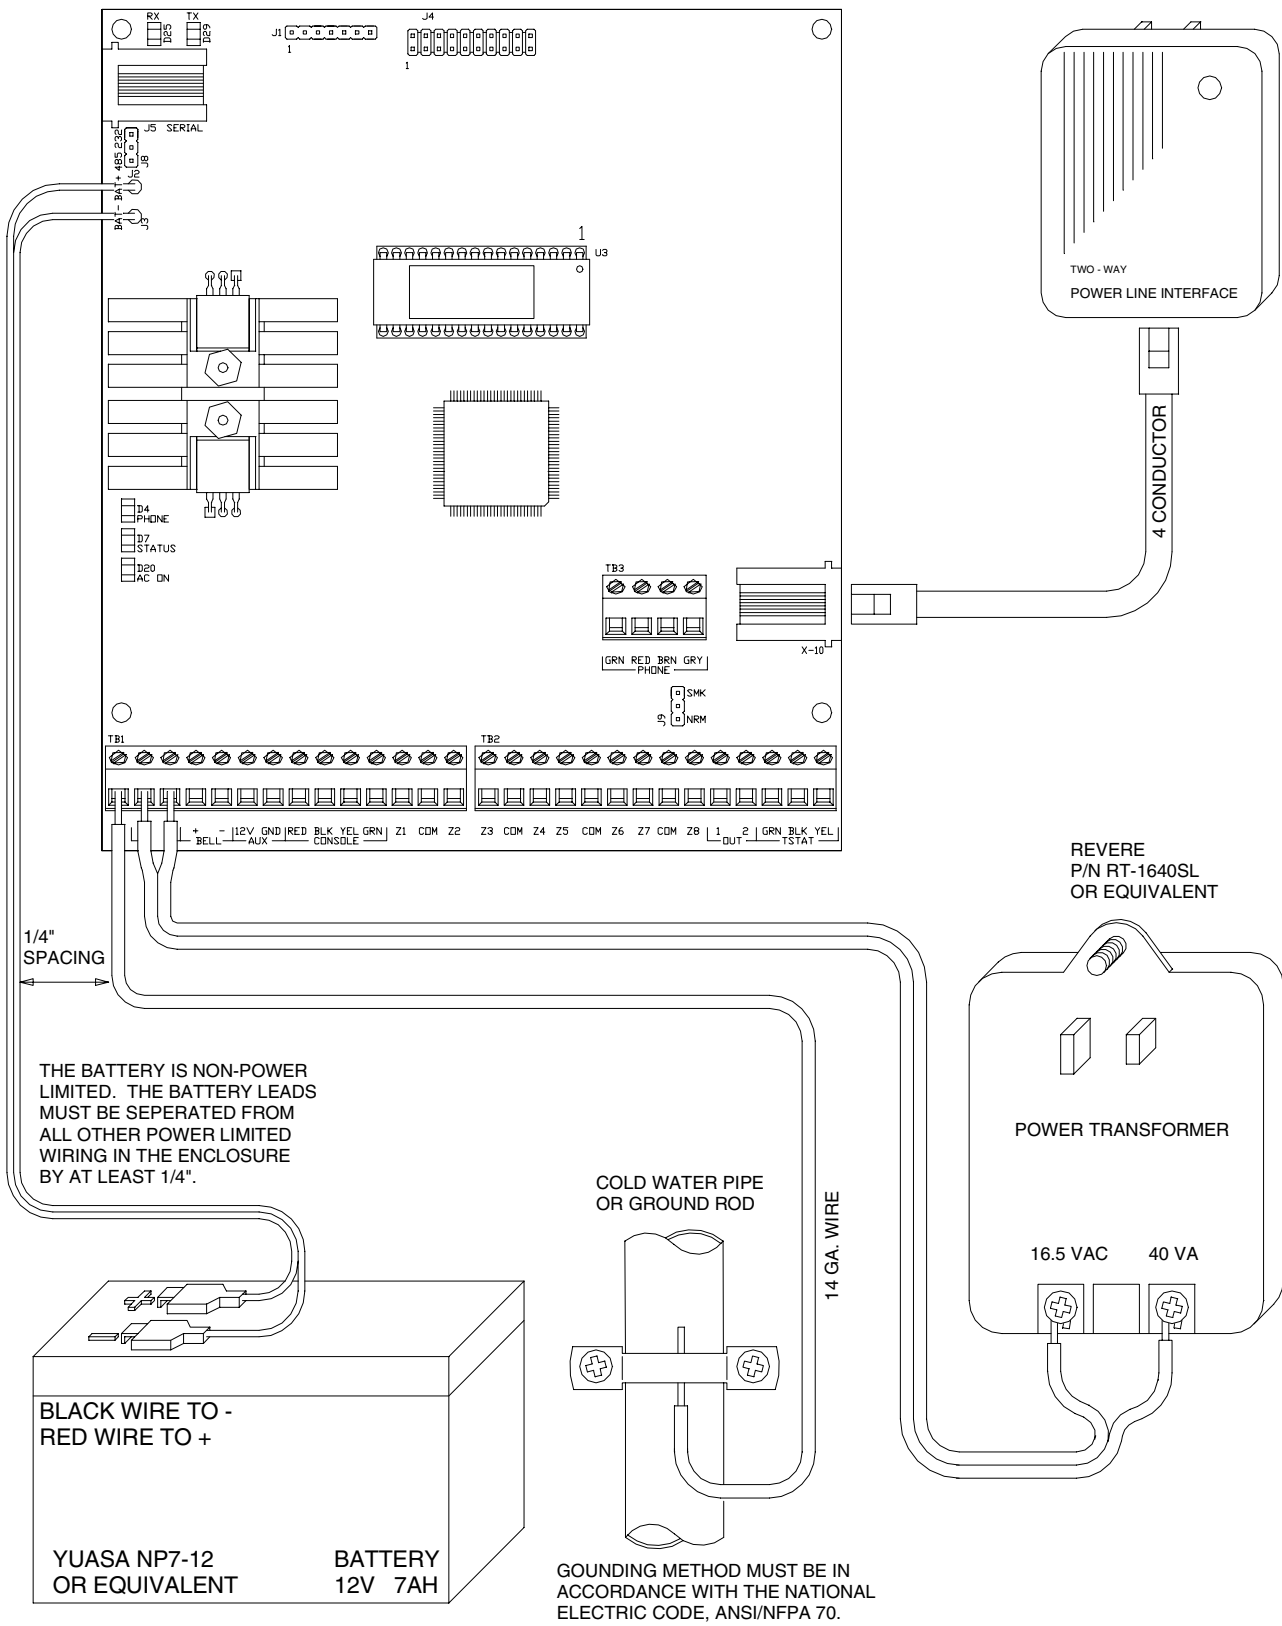

FIGURE 1 – CONTROLLER HOOKUP
6. Refer to **FIGURE 1 (CONTROLLER HOOKUP)** for this configuration.